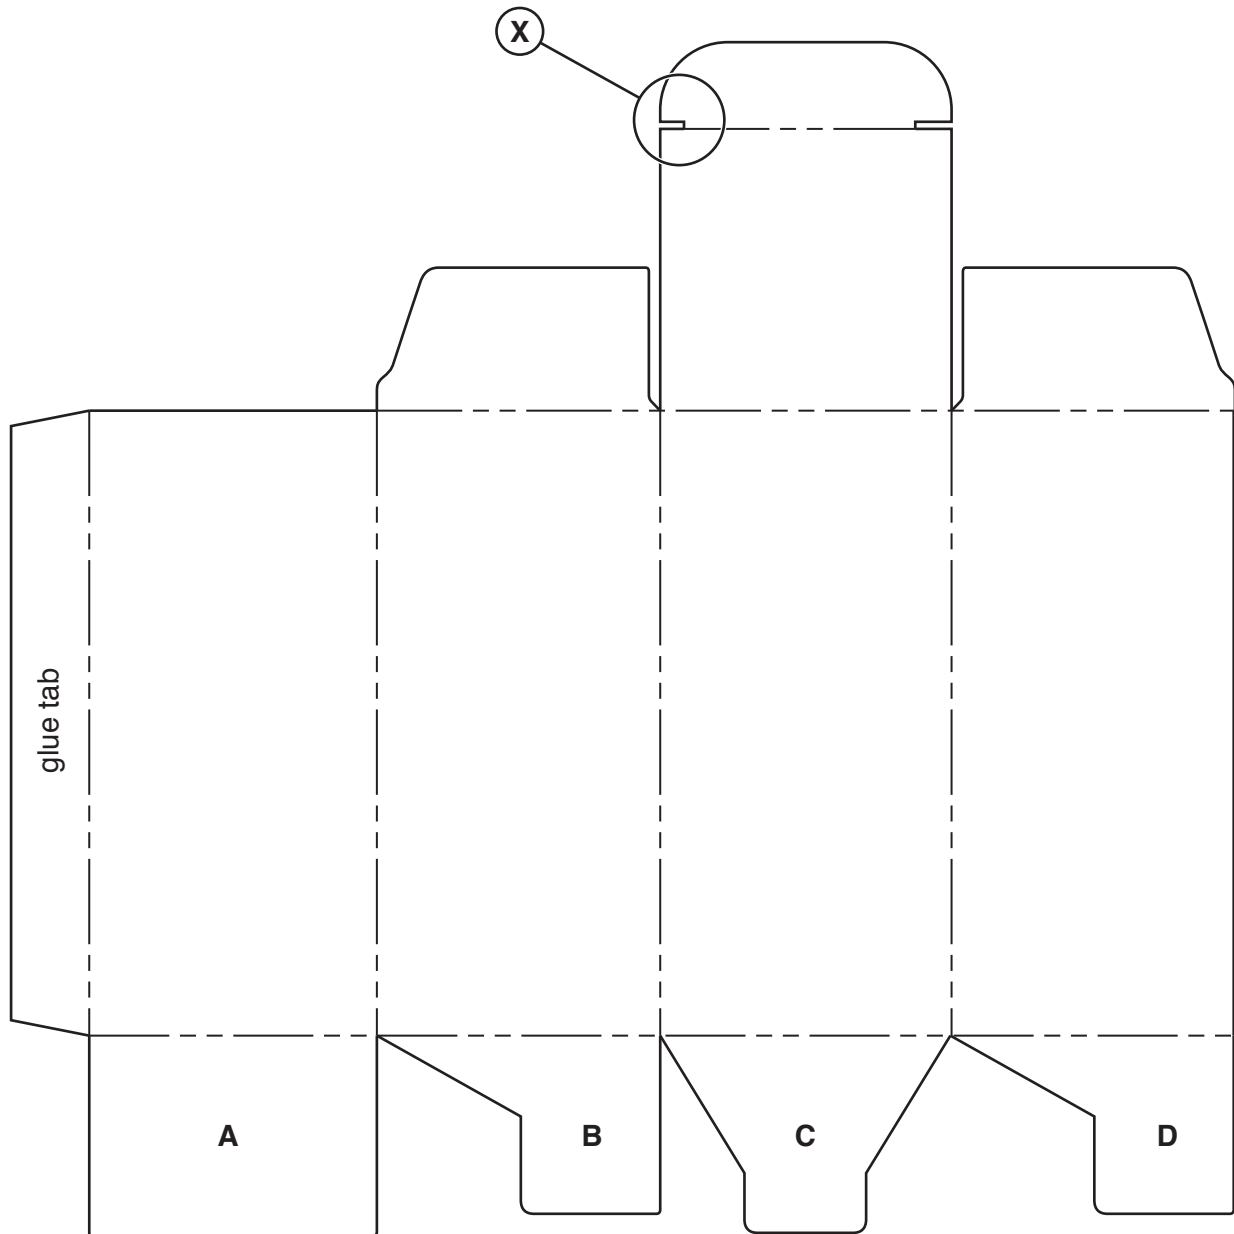

Fig. 5
- 5 Fig. 5 shows the development (net) of a box made from card. The box has a tuck in top and an automatic base (also known as a crash lock base). The four parts **A**, **B**, **C** and **D** lock together to form the base without the need for gluing.